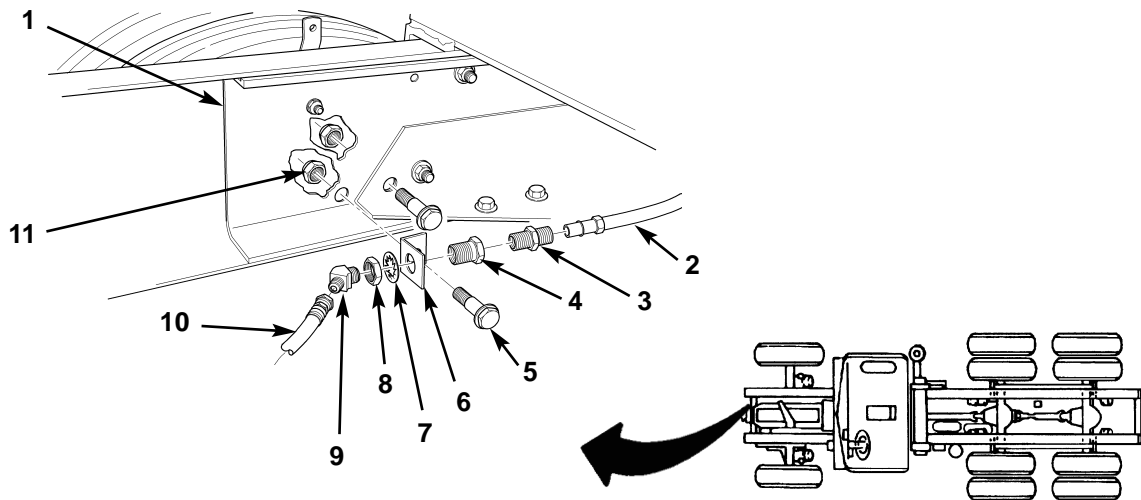

Figure 5. Removing Right-Front Air Block.
1. Disconnect tube (figure 5, item 2) and hose assembly (figure 5, item 10) from adapter (figure 5, item 3) and elbow (figure 5, item 9) on right-front bulkhead fitting mount (figure 5, item 6).
2. Remove adapter (figure 5, item 3) and elbow (figure 5, item 9) from bulkhead fitting (figure 5, item 4).
3. Remove nut (figure 5, item 8), lockwasher (figure 5, item 7), and bulkhead fitting (figure 5, item 4) from right-front bulkhead fitting mount (figure 5, item 6). Discard lockwasher (figure 5, item 7).
4. Remove locknut (figure 5, item 11), bolt (figure 5, item 5), and right-front bulkhead fitting mount (figure 5, item 6) from right frame rail and forward leaf spring shackle (figure 5, item 1). Discard locknut (figure 5, item 11).